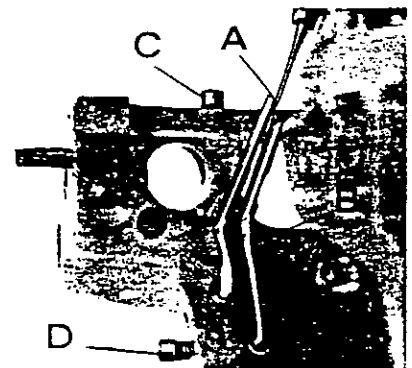

fig. 9
6. Setting the needle guards (fig. 9)